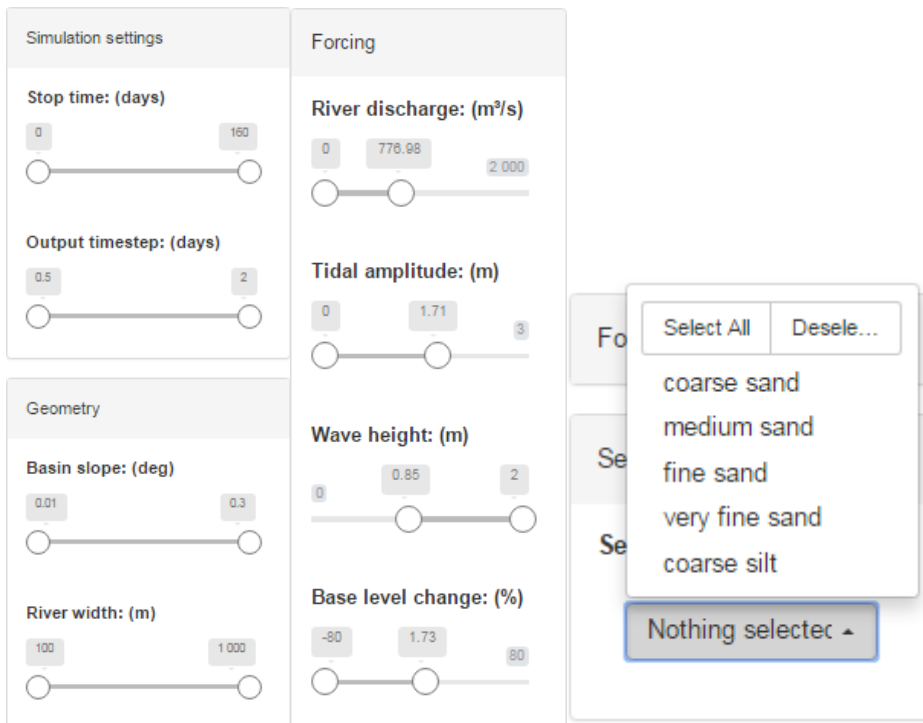

Figure 3.14 The simulations settings (left panel), forcing (central panel) and sediment composition filters (right panel)
- 'Simulation settings' filters runs based on the simulation stop time and output time step using sliders to narrow the search range (Figure 3.14).
- 'Geometry' filters runs based on the basin slope and river width using sliders to narrow the search range (Figure 3.14).
- 'Forcing' filters runs based on river discharge, tidal amplitude, wave height and base level change using sliders to narrow the search range (Figure 3.14).
- 'Sediment composition' filters run based on the initial sediment composition by ticking one or more of classes in the drop down menu (Figure 3.14). Clicking on the icons 'Select all' and 'Deselect all' results in ticking and de-ticking of all the options, respectively.